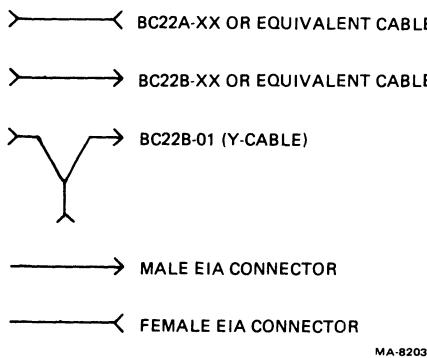

Figure 5-39 Printer Connection to Multiple Terminals and Connector Names
2. Line printer connected to multi-terminals (Figure 5-39)